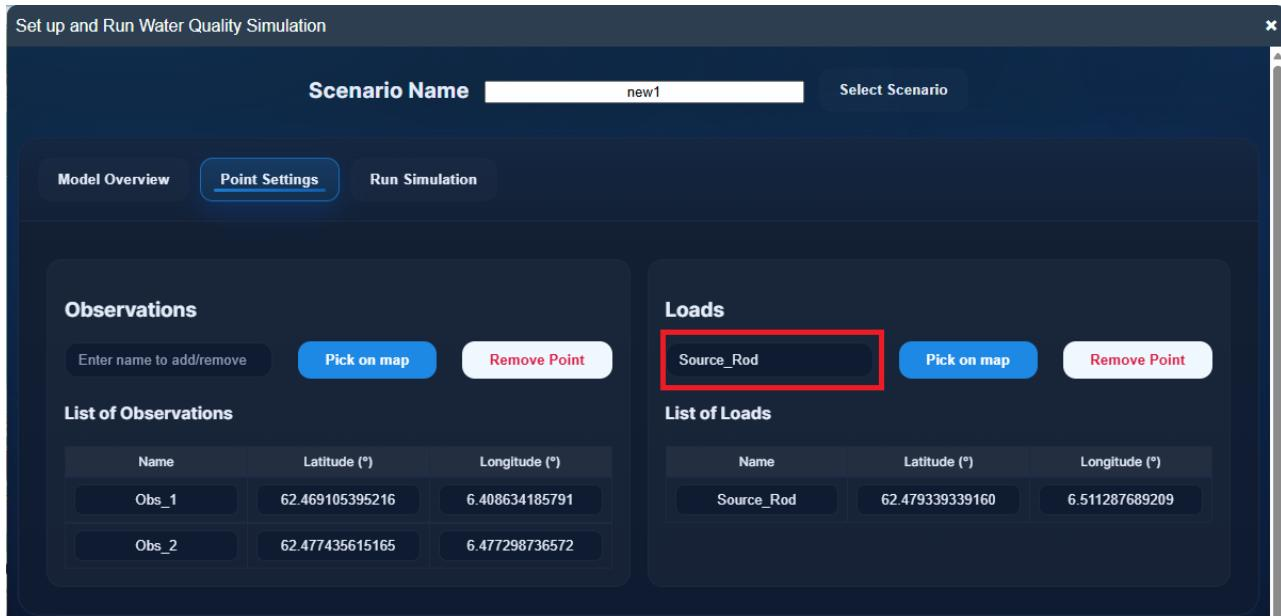

Figure 4.3. Observations and Loads definition
- ❖ **Point Settings:** This tab allows user to add observation points and loads for the WAQ simulation (Figure 4.3). Name of loads has to be the same as the name defined in the field "**Location**" of *Time-Series Preparation* table in tab "**Run Simulation**" (Figure 4.4).